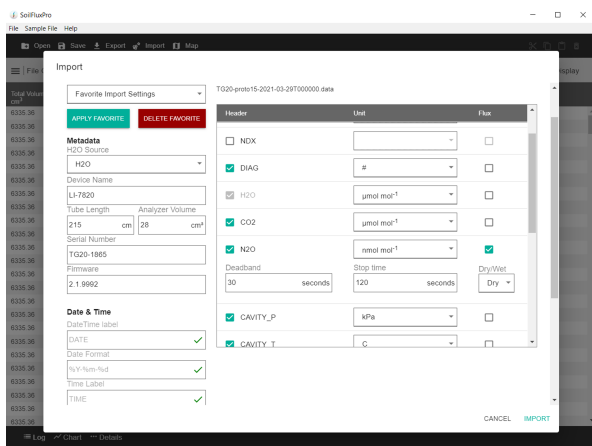

Figure 6. Settings used for N₂O import from LI-7820.
- 3 In the Import screen set up your N₂O data import as shown in Figure 6.